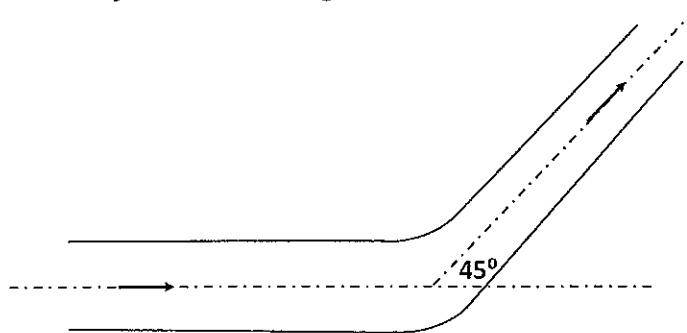

Figure Q 4
4. An air duct of 1 m^2 area gradually reduces to 0.5 m^2 area with a 45° bend as shown in figure Q 4. Find the magnitude and direction of the force required to hold the duct stationary, if the velocity and pressure of the flow at the inlet is 10 m/s and 30 kPa respectively. The density of air is 1.16 kg/m^3 .